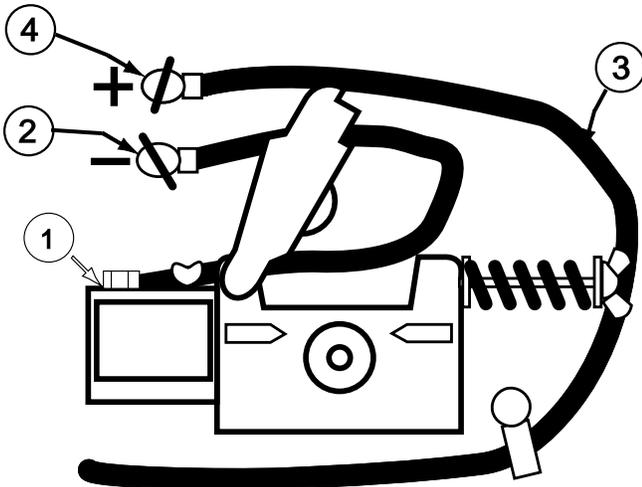

FIGURE A.4
5. **For Innershield Only:** Refer to Figure A.4. As delivered, the machine is connected for negative electrode polarity. To wire for negative polarity (required for the Innershield process), connect the short cable attached to the connector block (1) to the negative (-) output terminal (2) and the work cable (3) to the positive (+) terminal (4).